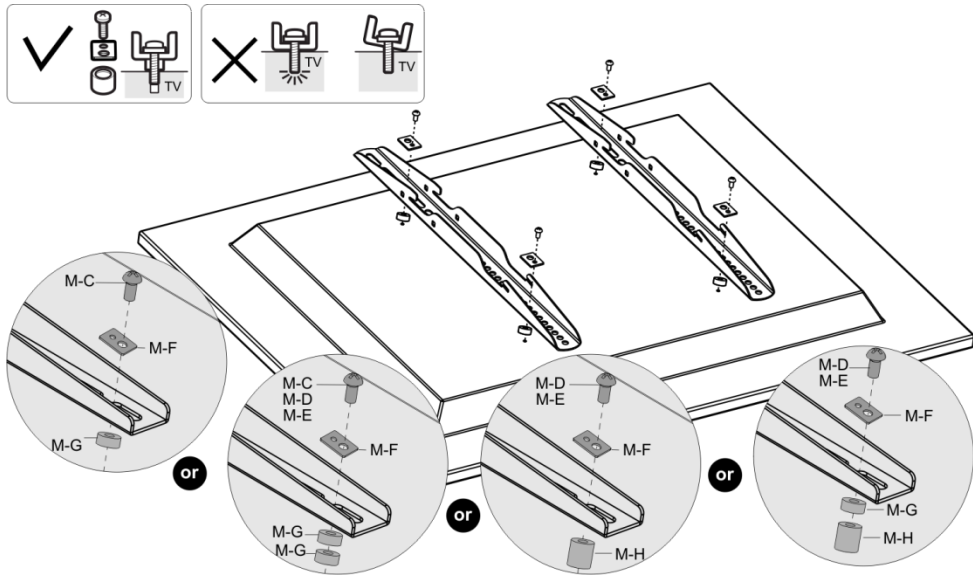

Fig. 06
01) Attach the adapter brackets to the back of the screen by using the appropriate combination of screws, washers, as shown in Fig. 06.
- 02) Begin with the shortest screw, hand thread it through the washer and the adapter bracket and into the screen as shown in Fig. 06.